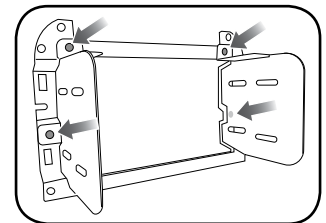

Fig. 1.10
- From the front of the dash bezel, drop the rubber pads into place in the holes for the control knobs then insert the knobs and snap into place.. (Fig. 1.10)
- Attach the supplied metal brackets to the plastic trim ring, using (2) phillips screws on each side, as shown. (Fig. 1.10)